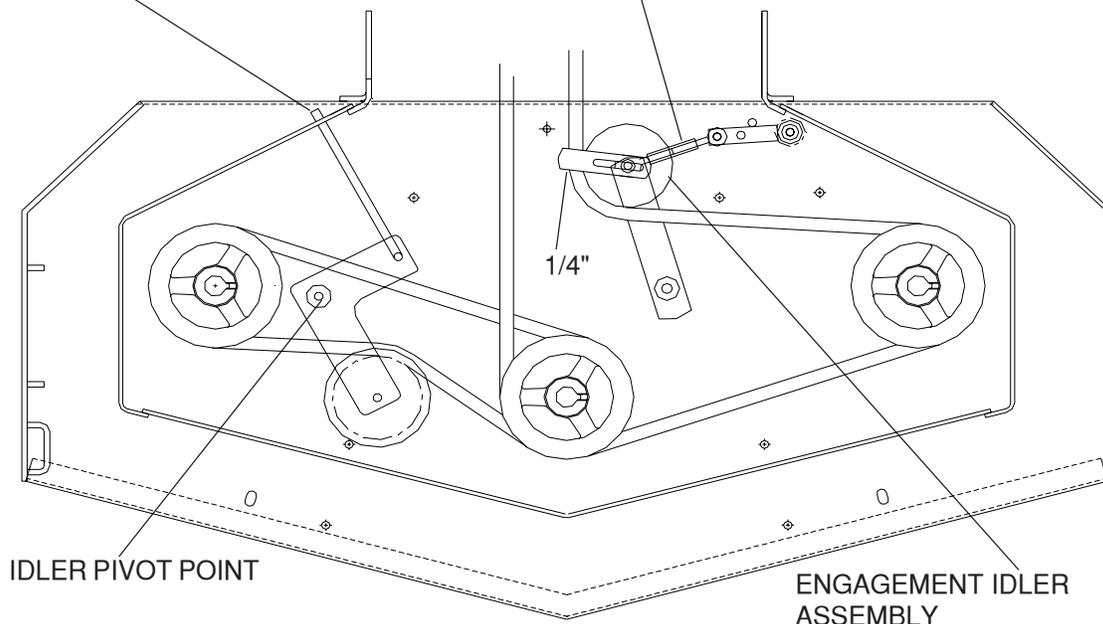

Figure 6
3. Loosen the snubber bolt on the engagement idler so belt can be removed. The engagement idler is located on the front deck towards the rear. See figure 6 on page 8.